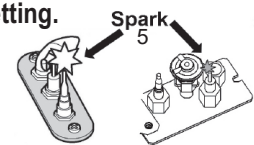

Fig 3
2. SET ON/OFF SWITCH (1) TO "OFF" POSITION.
- Wait five (5) minutes to clear out any gas, then smell for gas, including near the floor. If you smell gas, STOP! Follow "B" in the safety information above on this label. If you don't smell gas, go to the next step.
3. AUTOMATIC IGNITION (fig. 1): Locate the pilot (fig 3.) inside of firebox.
- ON/OFF switch (1) in ON position, MAN-knob (2) in ON position; set Flame Adjustment knob (3) to lowest setting (∩)
- When the pilot is lit, the Flame Adjustment knob (3) will automatically rotate to the highest setting.
4. MANUAL IGNITION (fig. 2): With the window off, locate pilot (fig. 3) inside firebox;
- ON/OFF switch (1) in ON position, MAN-knob (2) in MAN position;
- Set Flame Adjustment knob (3) to the lowest setting (∩);
- Push down the metallic core (4) with a pen or similar instrument; this will establish the pilot gas flow;
- Light gas at the pilot (5) with a match;
- Continue holding down metal core (4) for about 10 seconds; after release, pilot should remain lit;
- If the pilot will not stay lit after several tries, turn the gas control knob (3) to "OFF" (∩) and call your local service technician or gas supplier.
- Reinstall the window and set the MAN-knob (2) to "ON"; turn Flame Adjustment knob (3) up (∩) or down manually or use the up/down 'flame' buttons on the remote control handset to adjust the flame height.